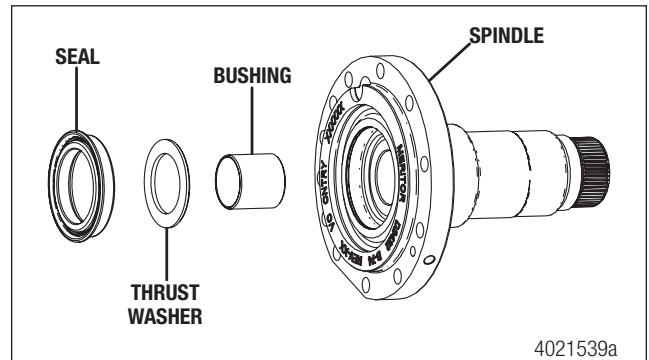

Figure 13.1
1. If a new bushing is required, apply a layer of Loctite® 680 sealant or equivalent on the outside diameter of the bushing. Figure 13.1.